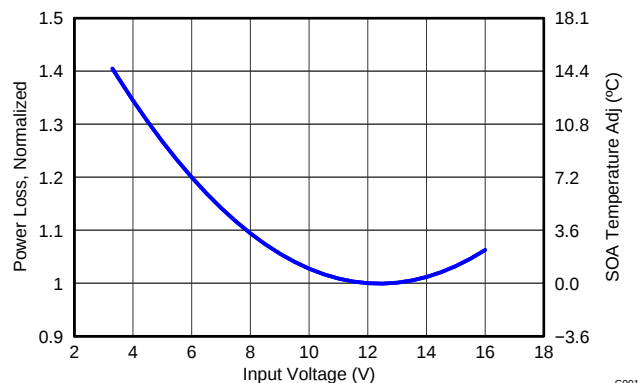

Figure 13. Normalized Power Loss vs Input Voltage
- Normalized Power Loss for input voltage  $\approx 1.15$  (Figure 13)
- SOA adjustment for input voltage  $\approx 5.4^{\circ}C$  (Figure 13)